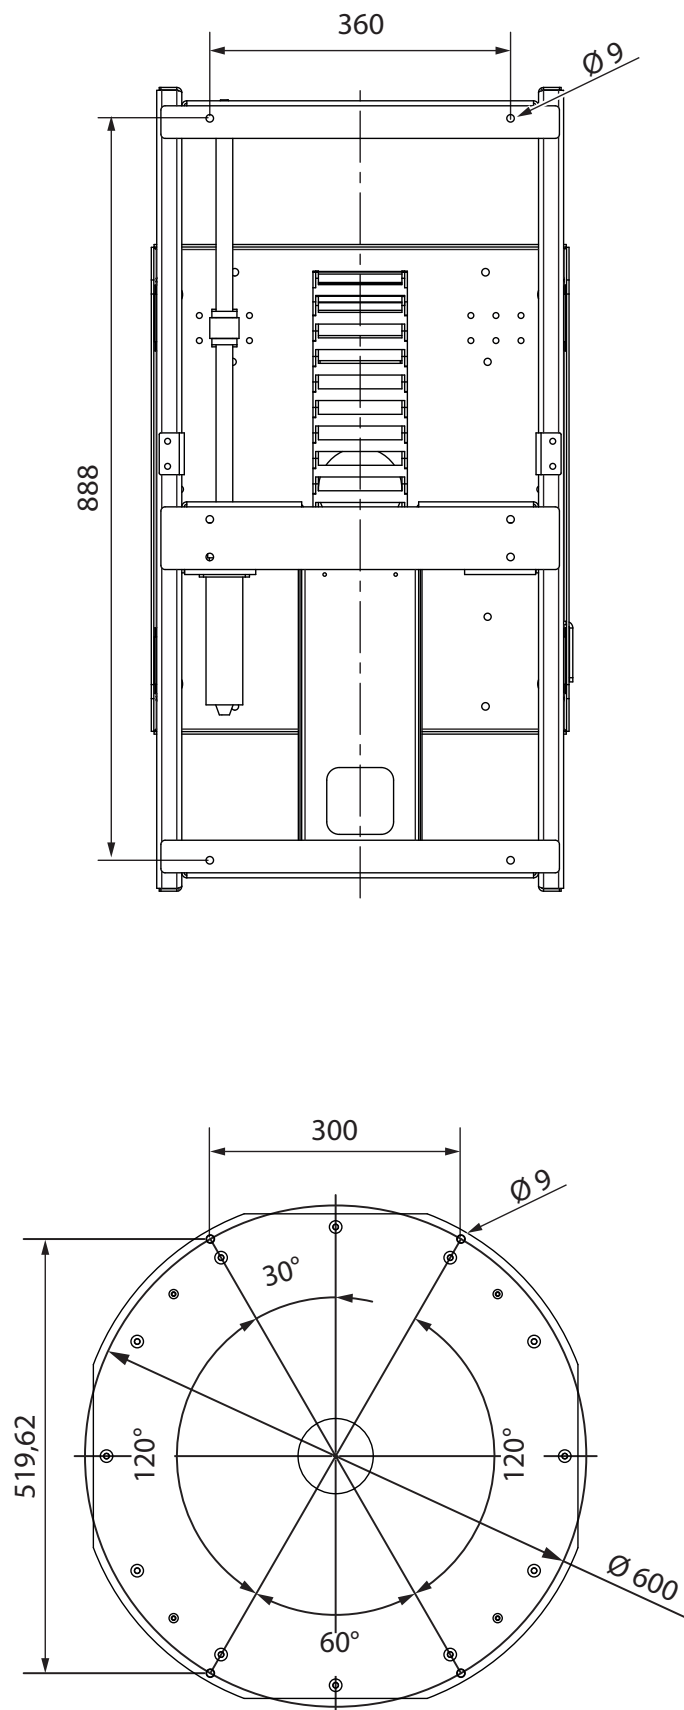

Figure 4. Installation dimensions (dimensions in mm)
2. Position the control stand in the installation location, during this process pay attention to the correct minimum distance to neighboring parts. The rotating and swiveling area of the control stand must not be blocked, installation dimensions: *see Figure 4 "Installation dimensions (dimensions in mm)", page 49.*
3. Fasten the control stand using 4 suitable screws M8 and detent-edged washers or a suitable screw locking compound (e.g. Loctite) through the fastening bores (24) in the slewing ring (23) in the installation space (**tightening torque 24 Nm**).
2. Position the control stand in the installation location, during this process pay attention to the correct minimum distance to neighboring parts. The rotating and swiveling area as well as the linear movement area of the control stand must not be blocked. Installation dimensions: *see Figure 4 "Installation dimensions (dimensions in mm)", page 49.*
3. Fasten the control stand using 4 suitable screws M8 and detent-edged washers or a suitable screw locking compound (e.g. Loctite) through the fastening bores (25) in the slide (14) in the installation space (**tightening torque 24 Nm**).